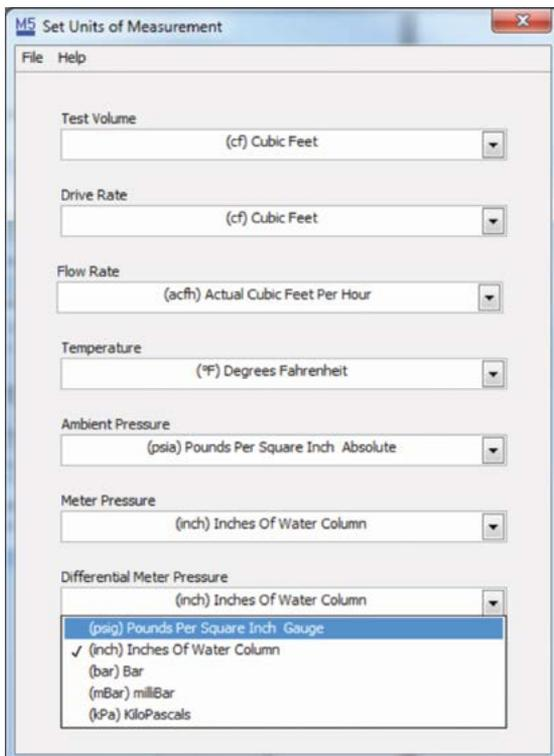

Figure 116: Drop Down Selection
6. In this example the units of measure for differential meter pressure will be changed. Follow the same procedure for any of the listed drop-down menus. Select the down arrow to reveal available options, as shown in **Figure 116**. Click the desired unit.